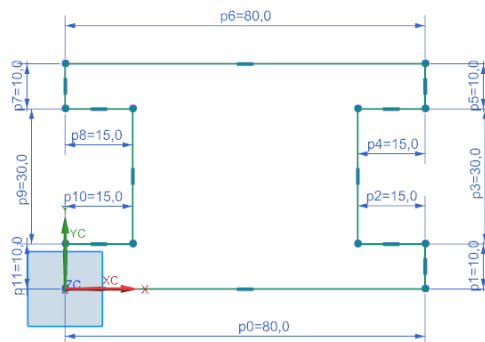

Figure 2-52 Outer profile of the sketch
16. Press the ESC key twice to exit the **Profile** tool. The outer profile of the sketch is shown in Figure 2-52.